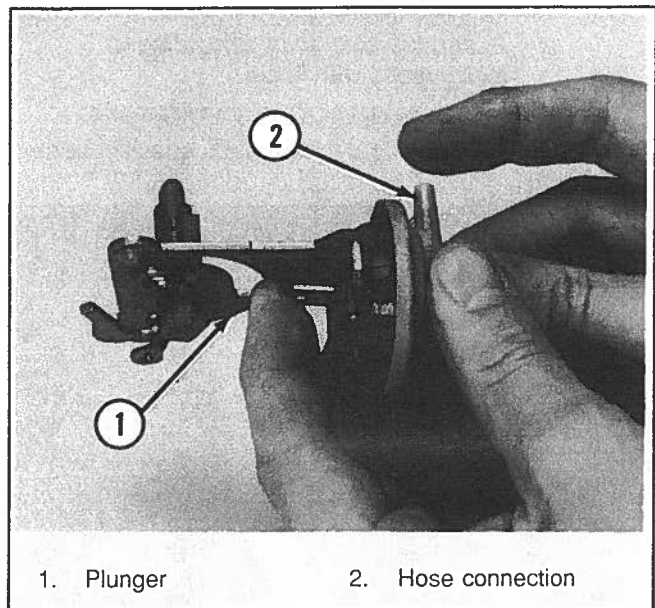

Figure 7-32. Seating Plunger And Hose Connection Sealed
- a. Depress plunger and seal hose connection (Figure 7-32).